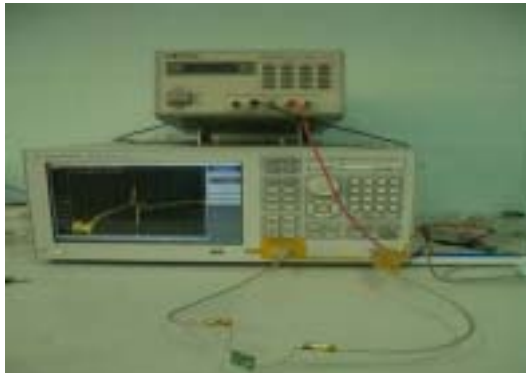

Fig.4 Network Analyzer
- Equipment : Network Analyzer (Agilent E5071B)(Fig.4)